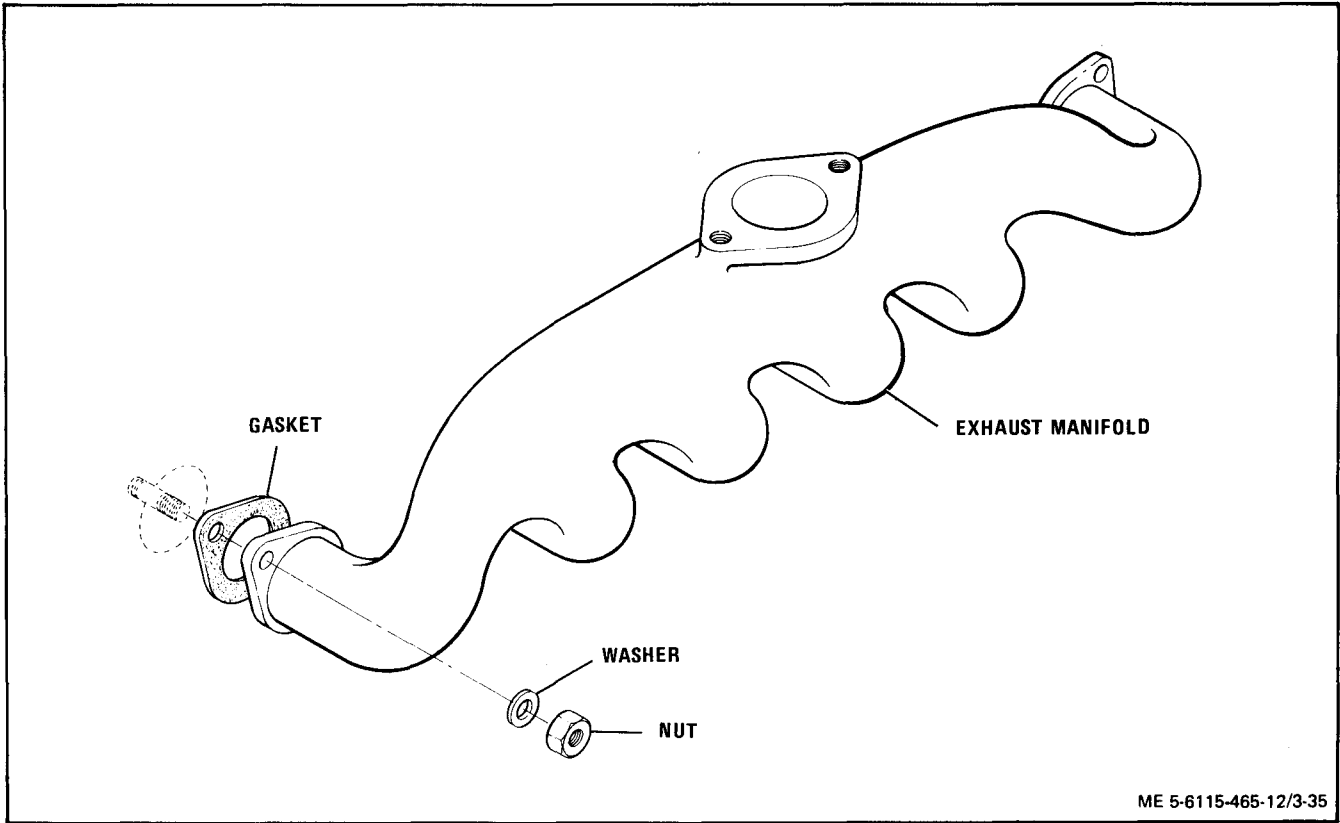

Figure 3-35. Exhaust Manifold, Removal and Installation
(1) Refer to paragraph 3-102 and remove the muffler.
(2) Remove nuts and washers (figure 3-35) to remove exhaust manifold and gaskets. Discard gaskets.